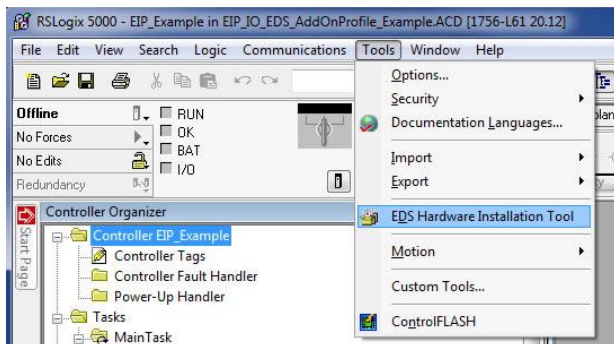

Figure 29: EDS Hardware Installation Tool Menu
- 1) Register the interface card's EDS file. In the menu bar, navigate to Tools...EDS Hardware Installation Tool. Refer to Figure 29.